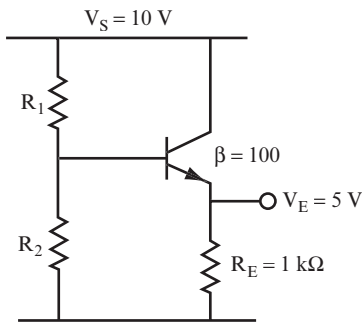

FIGURE 8.26
A simple design example illustrates this procedure. Use the values shown in the circuit in Figure 8.26 for this problem.
1. 5 volts (This was given in Figure 8.26.)
3. 1 k Ω (This was given in Figure 8.26.)